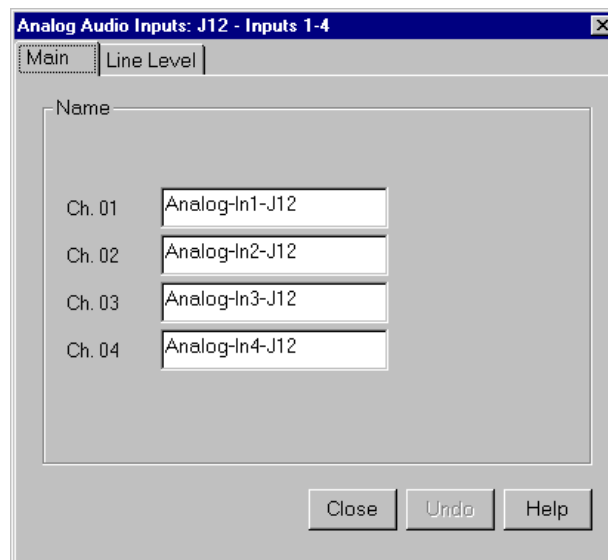

Figure 28. Analog Audio Input dialog box, Main tab
1. Expand Audio Input, and then click one of the Analog Channels. The Analog Audio Input dialog box appears (Figure 28). The channel numbers on the left refer to the physical input connectors on the audio input box. **Ch. 01** refers to the first connector, and **Ch. 02** refers to the second connector, and so forth.